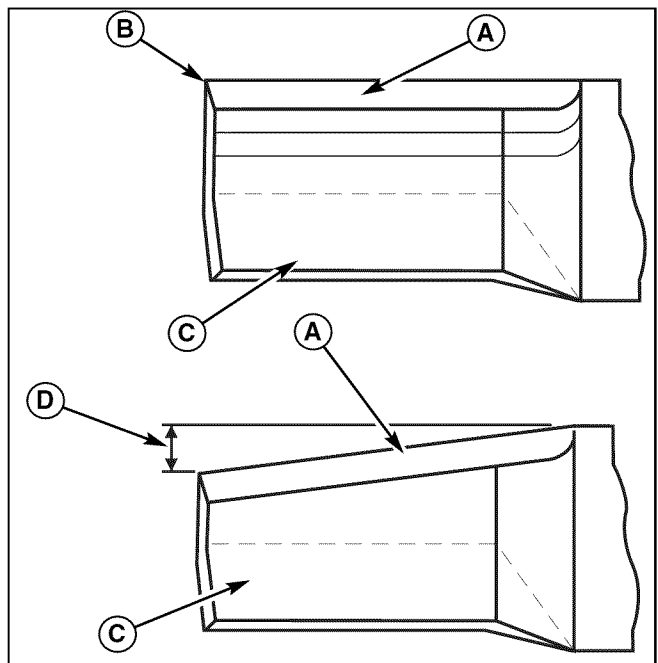

Figure 21. inspecting the Mower Blade Tips
2. Inspect the mower blade (Figures 21 & 22). **Discard the mower blade if it has any of the below conditions.**